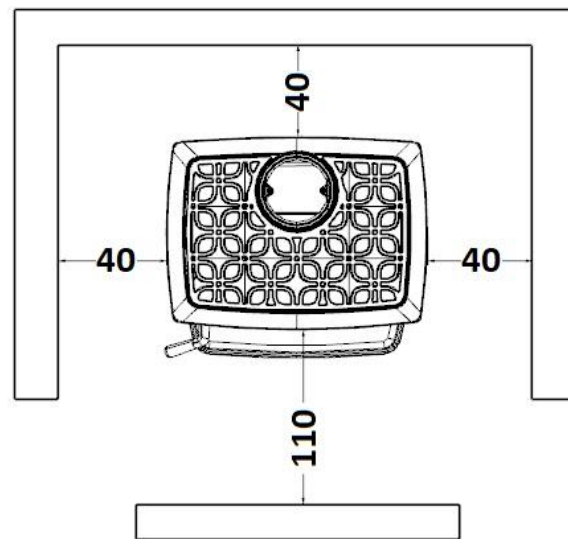

FIG. 7 – SECURITY MEASURES (cm)
- When installing the stove, observe the necessary safety distances for the oven and chimney from combustible surfaces (wooden or papered walls, wooden floors...). Safety distances must be respected when the lining on walls or nearby areas may be damaged or deformed by temperature (varnish, paint, PVC...). Fig. 7